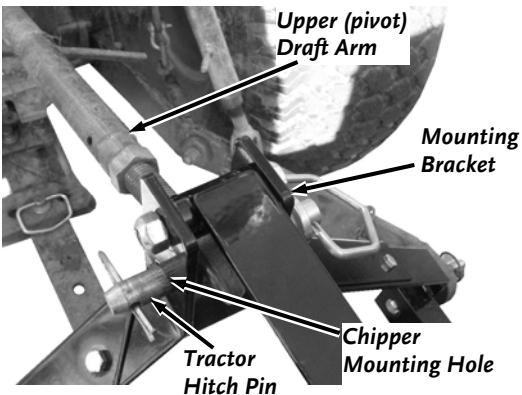

Figure 13
3. Position the Upper Draft Arm inside the Mounting Bracket and align with the Mounting Bracket Holes (**Figure 13**).